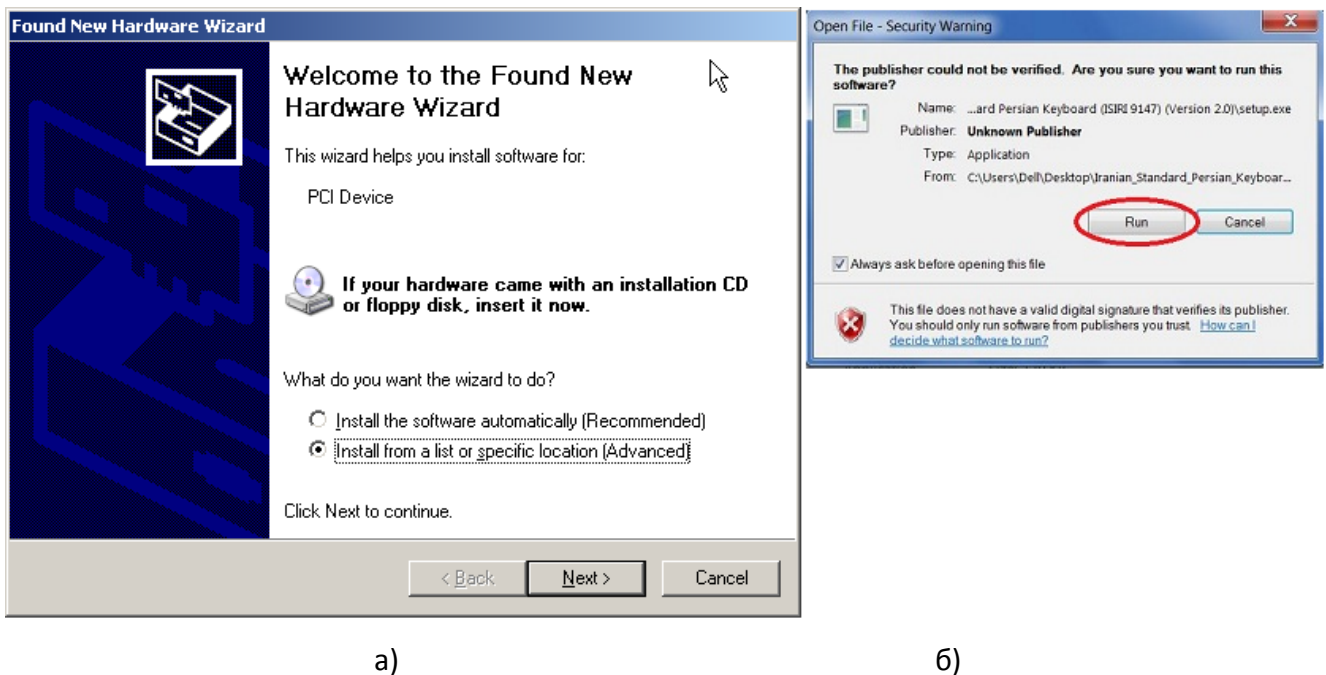

Figure 3.1 – Dialog windows Found New Hardware
Connect the meter to the USB port on a computer using a cable USB 2.0 (AB). When connected to a USB port the meter turns on automatically. In a few seconds the computer will report about finding a new device and prompt the user to install the device driver using the "Setup manager" (Figure 3.1 a).
After the startup dialog window "Setup Manager", click "Cancel". Open the file «CDM 20600.exe», located on the CD in the folder «FTDI». After a few seconds a window will appear "Security Warning" (figure 3.1, b). After the appearance of the window "Security Warning" click "Run". After a few seconds the computer will report that new hardware is installed and ready to use.